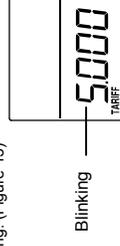

Figure 15
1. Press and hold the TARIFF key for 2 seconds to enter the setting mode of tariff, the most significant digit is blinking. (Figure 15)